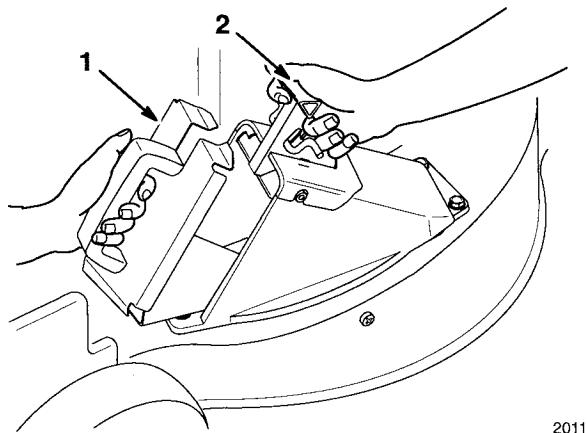

Figure 20
1. Make sure engine is turned off. Open discharge door by moving handle rearward (Fig. 20). Hold the discharge door fully open while inserting the plug.